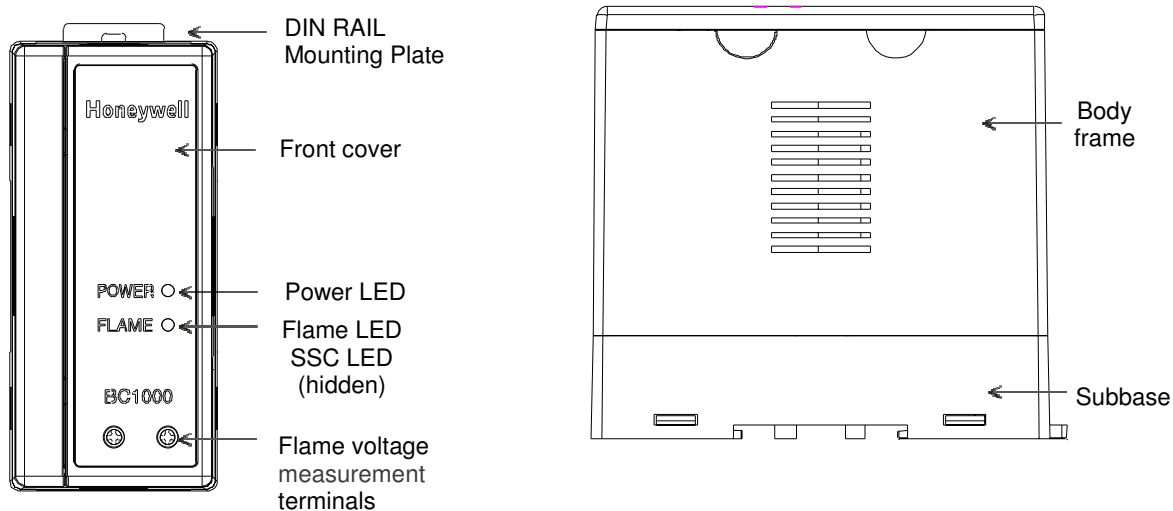

Fig. 1: Appearance
- 1) Remove the front cover as shown in Fig. 1 and unscrew the Phillips head fixing screw by about 8 turns CCW.